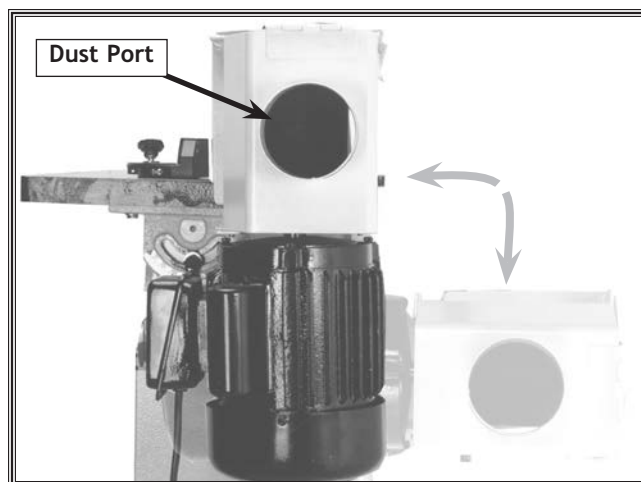

Figure 20. Platen and dust hood tilt.
2. Connect your dust collection suction tube to the dust port, so when you tilt the platen from the vertical to the horizontal position, the suction tube will not bind, leak, or disconnect the dust-collector ducting ground. See Figure 20.